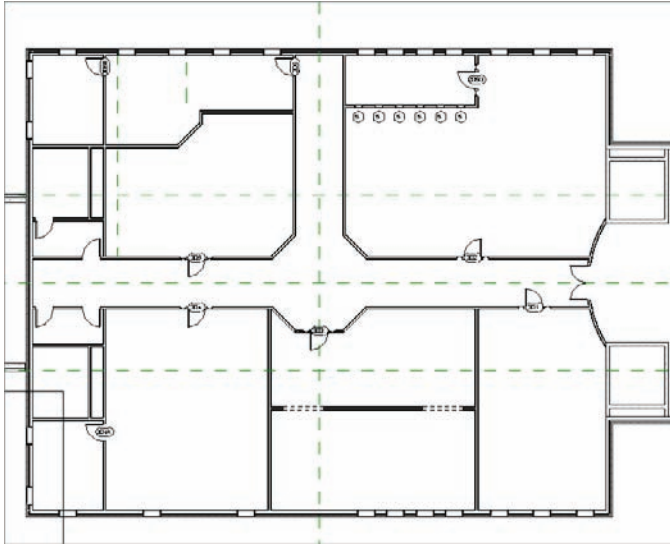

FIGURE 4.56 Level 3: This floor plan was mostly copied from Level 1, with the exception of the northwest corner.
9. Go to Level 3, and create a floor plan similar to Figure 4.56. You can do this by using Copy And Paste > Aligned To Selected Levels from Level 1. The floor plans are identical, other than the wall configuration in the northwest corner.